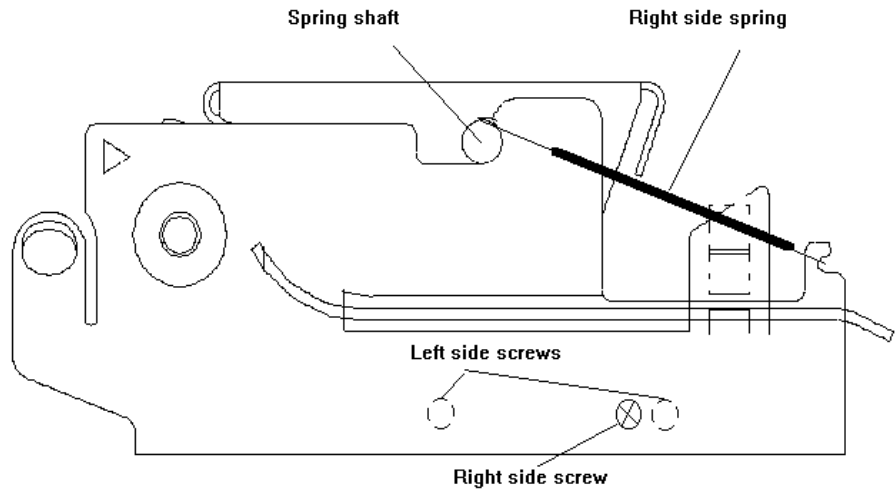

Figure 5-5 Side view
NOTE: From June 1996, the label guides in the Model 355/8450 are set to a fixed label width at the factory. If adjustments need to be made to the label guides, you must loosen the three screws (Figure 5-5) to make your adjustments. Then tighten the screws.
3. Unlock printhead assembly and remove both right and left side springs. Remove the right side screw and both left side screws (Figure 5-5). Remove spring shaft shown in Figure 5-5 and remove printer mechanism.
Note: Three screws shown in Figure 5-6 are located on the bottom of the printhead in the approximate locations shown in Figure 5-5.